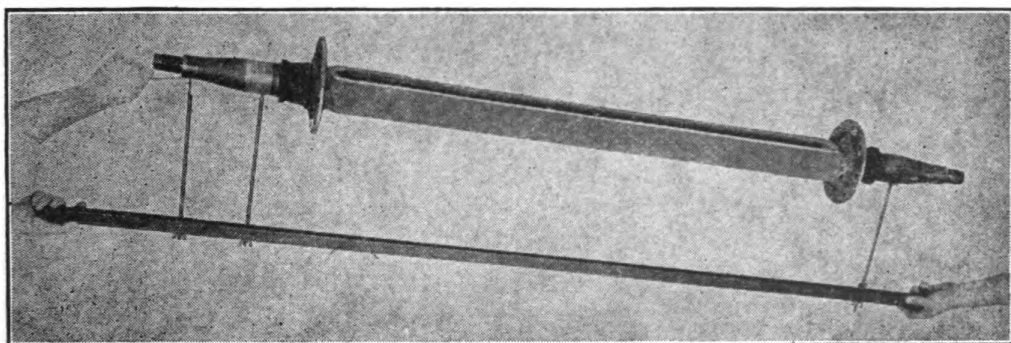

FIGURE 19. CHECKING AXLE FOR BEND.
8. CHECKING AXLE FOR BEND (Fig. 19).—Procedure for checking either dolly or semi-trailer axle is identical.